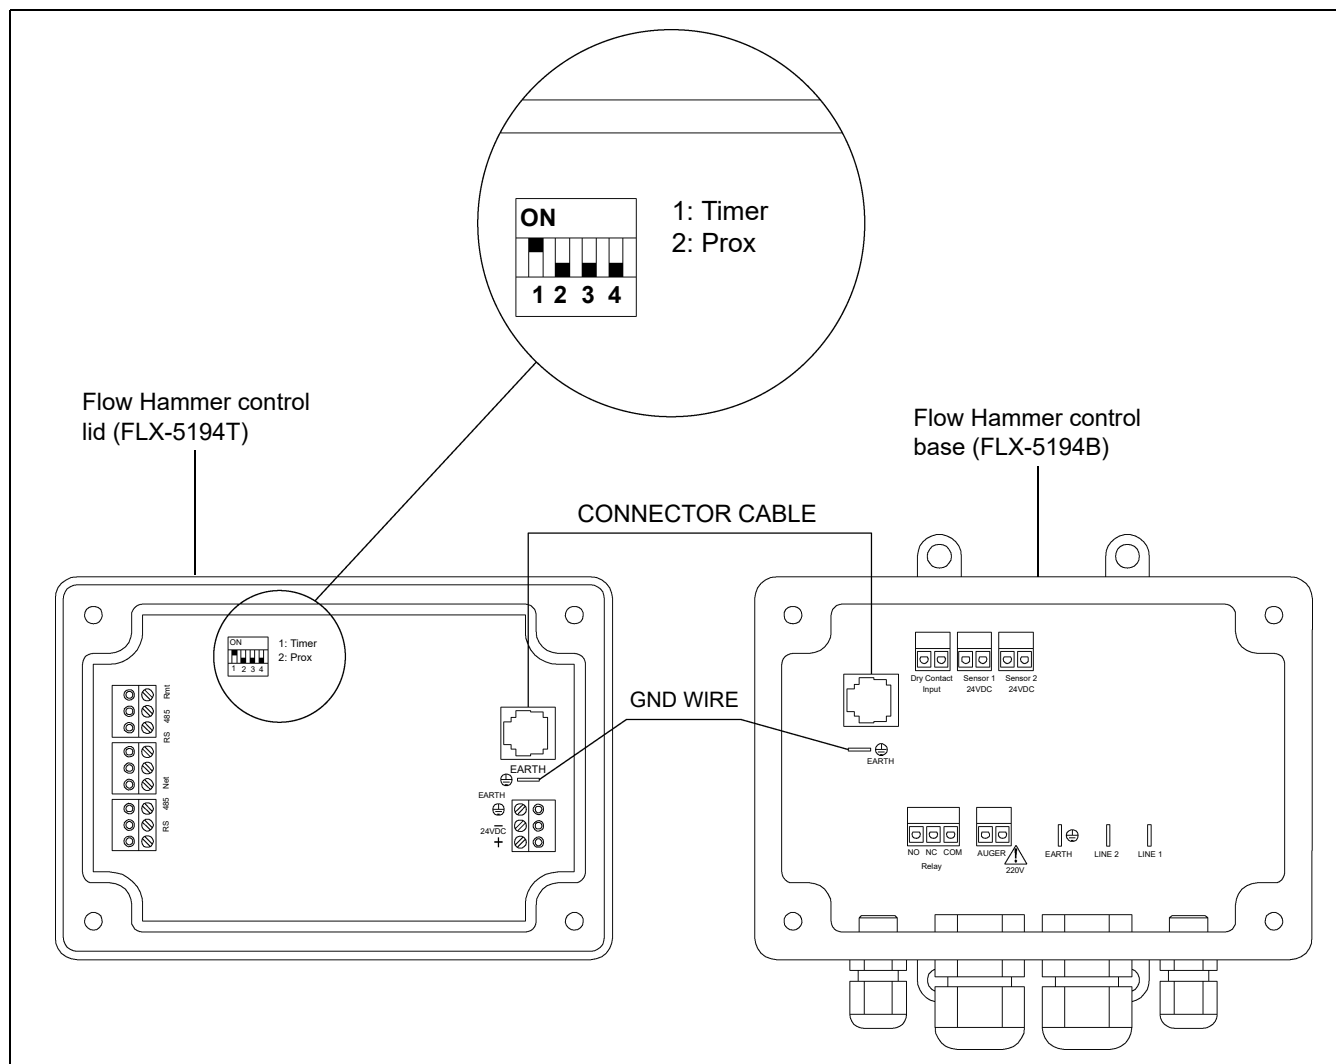

Figure 4A Dip Switch Settings for Timer Mode
2. Inside the lid, turn dip switch #1 to **ON** position according to Figure 4A. Switch #2, #3 and #4 must be in **OFF** position.